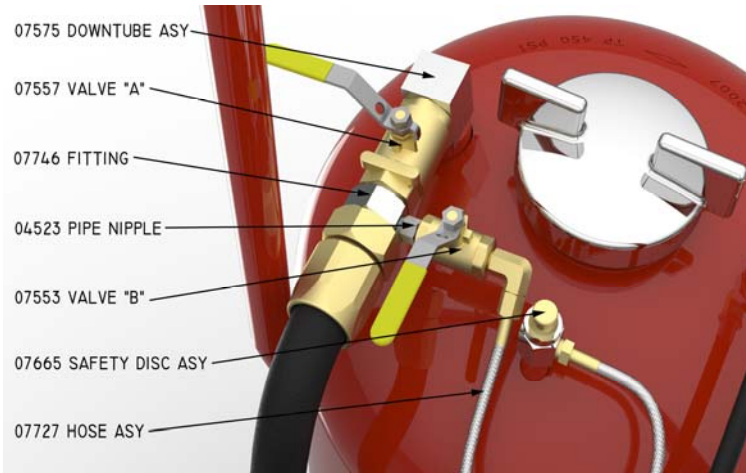

Figure 1
3. Remove ring pin and CLOSE agent cylinder valve (Valve A in Fig. 1) to prevent further chemical from entering the hose.
4. Remove ring pin and OPEN pressure vent valve (Valve B in Fig. 1) to allow nitrogen gas to by-pass the chemical and pressurize the hose.